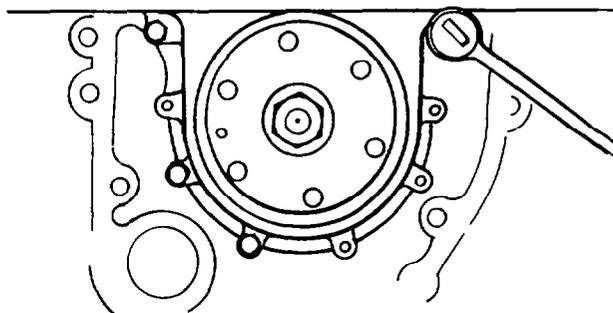

Fig. 71 — Aligning the Seal Housing
- c. Install and hand tighten the retaining bolts; use a straight edge to align the flange on the housing to the sump rail. Torque the retaining bolts in a diagonal sequence to 18 Nm (13 lb.ft) (see fig. 71).